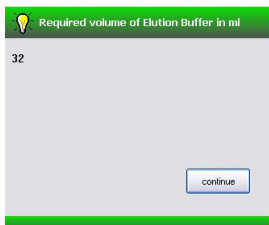

Figure 16. Requested volume of Elution Buffer - dialog window
26. Check for the necessary volume of Elution Buffer (Fig. 16).